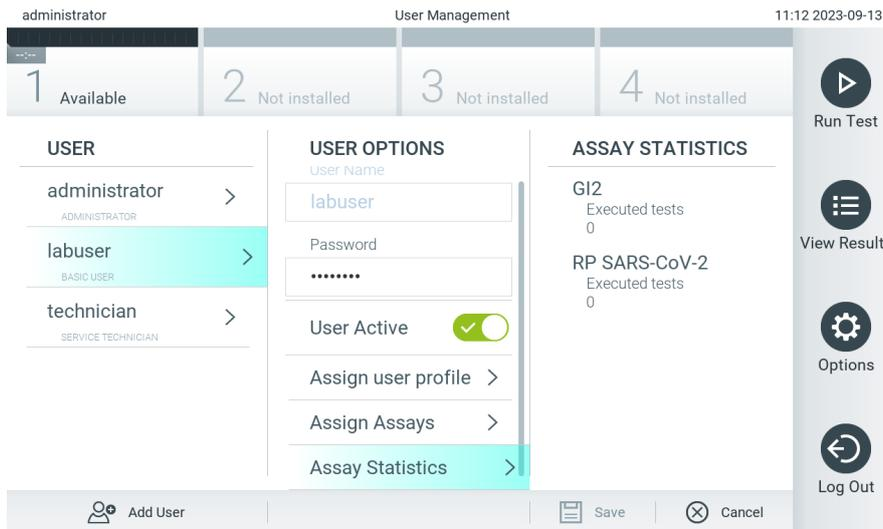

Figure 54. Viewing assay statistics.
**Assay Statistics**: Shows the number of times an assay was run by the selected user (Figure 54).